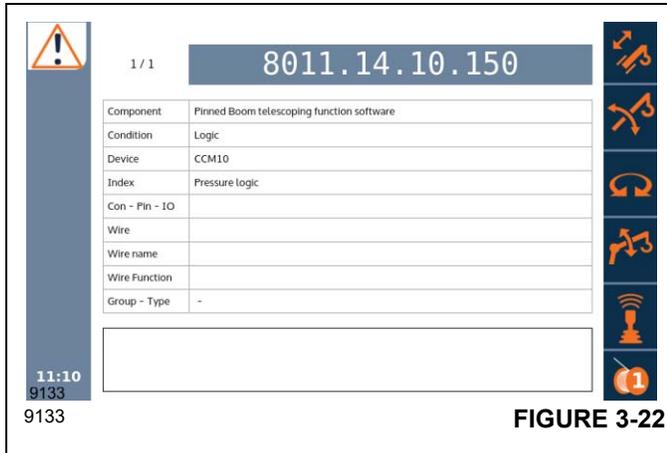

FIGURE 3-22
3. The ODM error code viewer (Figure 3-22) opens.